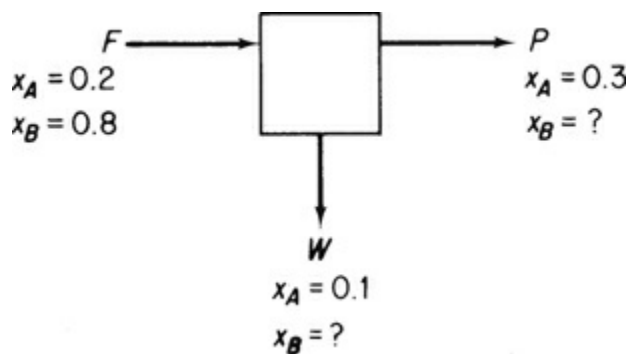

Figure P3.3.3
****3.3.3** Examine the process in Figure P3.3.3. No chemical reaction takes place, and x stands for mole fraction. How many variables are unknown? How many are concentrations? Can this problem be solved uniquely for the unknowns?